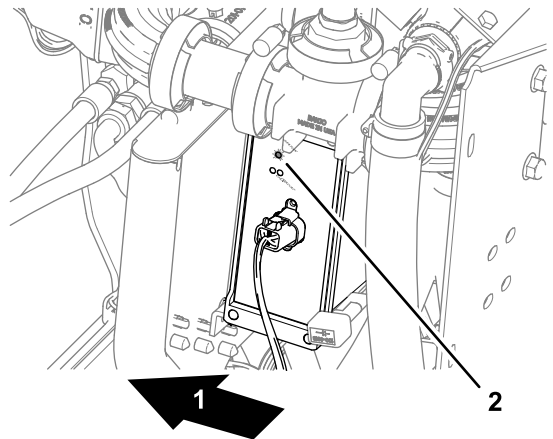

Figure 197
- Automatic section controller—the STATUS indicator illuminates (Figure 197)